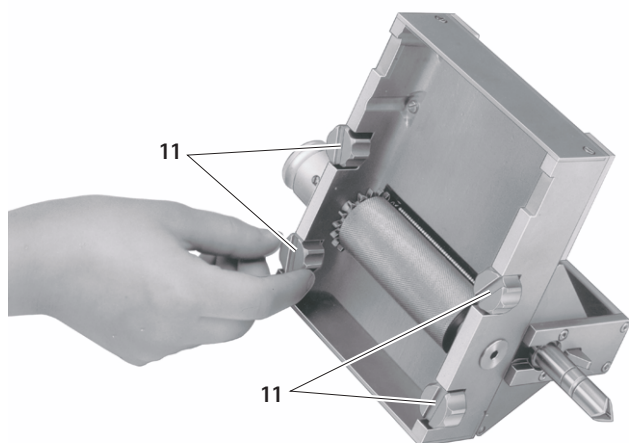

Fig. 1
- ▶ Turn cutting device 4 upside down so that the four screws 11 are visible, see Fig. 1.
- Turn cutting device **4** upside down so that the four screws **11** are visible, see Fig. 1.